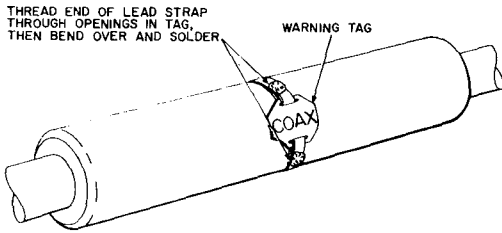

Fig. 7—Warning Tag Placed—Method One
6.01 The E, F, G, H, and J Warning Tags can be attached to the splice by one of the method illustrated in Fig. 7, 8 and 9.
6.02 The superseded A, B, and C Warning Tags of enameled metal can be fastened to the splice by the lead strap method illustrated in Fig. 7 or 8.